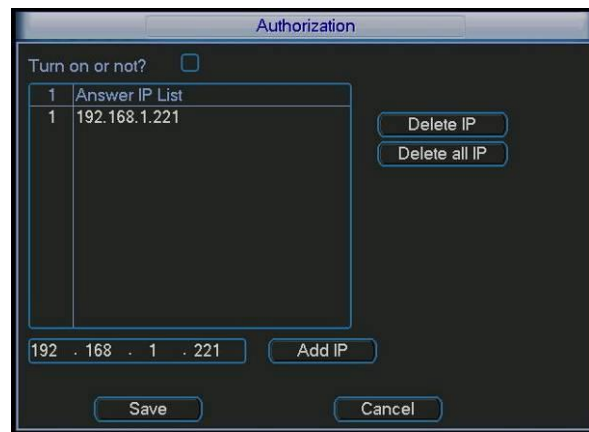

Figure 4-40
- | Authorization: Click authorization button and highlight icon to enable IP authentication function. When you enable this function, only the IP addresses set in the list can login to this DVR. See Figure 4-40.